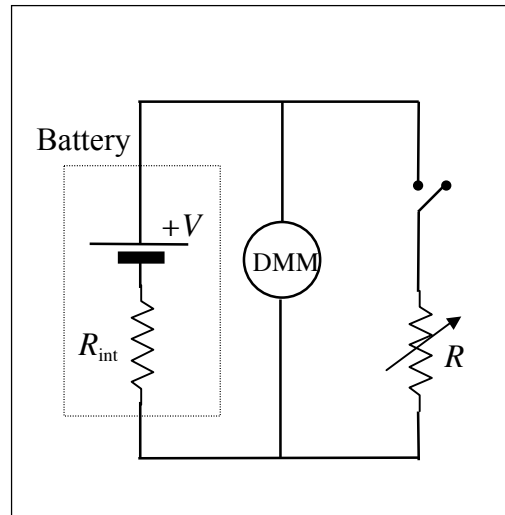

Figure 8 Output resistance
- To measure the internal resistance R_{int} of the battery provided, connect it in series with the 1000 ohm variable resistance box and a switch (figure 8).
- Then close the switch and vary the external resistance: (1) making a plot of R versus V , and (2) also finding the resistance, call it R , at which the measured voltage is *half* the open circuit value. Your circuit is then a potential divider in which half the voltage drop occurs across R_{int} and half across R , hence $R = R_{\text{int}}$.
- Replace the battery of figure 8 by the 'black box'.